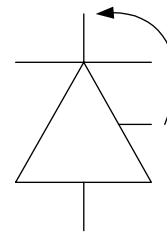

Figure 2-2 Testing IGCTs
- Hold one probe against the cooler on the cathode side and the other probe against a screw head on the gate side (see *Figure 2-2*).
Result of the measurement: approx. -20 VDC (see *Figure 2-2*).
Expected result of the measurement: approx. +0.7 VDC (see also *Figure 2-2*).